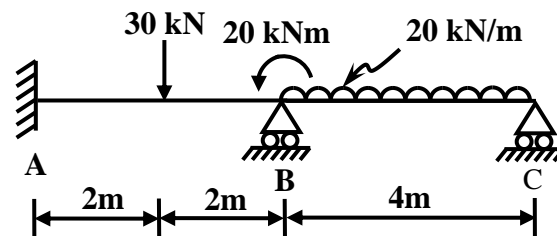

Fig.1
1. Analyze continuous beam shown in fig.1 by Stiffness Matrix Method system approach. Draw shear force and bending moment diagrams showing all salient points.
4. Analyze continuous beam shown in fig.1 by Flexibility Matrix Method system approach. Draw shear force and bending moment diagrams showing all salient points.